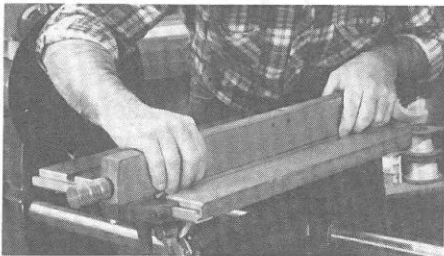

Figure 18. Checking the alignment of the rip fence.
a. To **check** the alignment of the rip fence, mount the rip fence on the table, near either miter gauge slot. (See Figure 18.) Make sure that the two setscrews in either side of the rip fence base are backed out so that they don't contact the table bar. Position the rip fence so that one side of the fence is flush with the edge of a miter gauge slot and tighten the lock knob. If the rip fence locks down parallel to the miter gauge slot, then it is also parallel to the main spindle's plane of rotation. If it's not, the rip fence needs aligning.